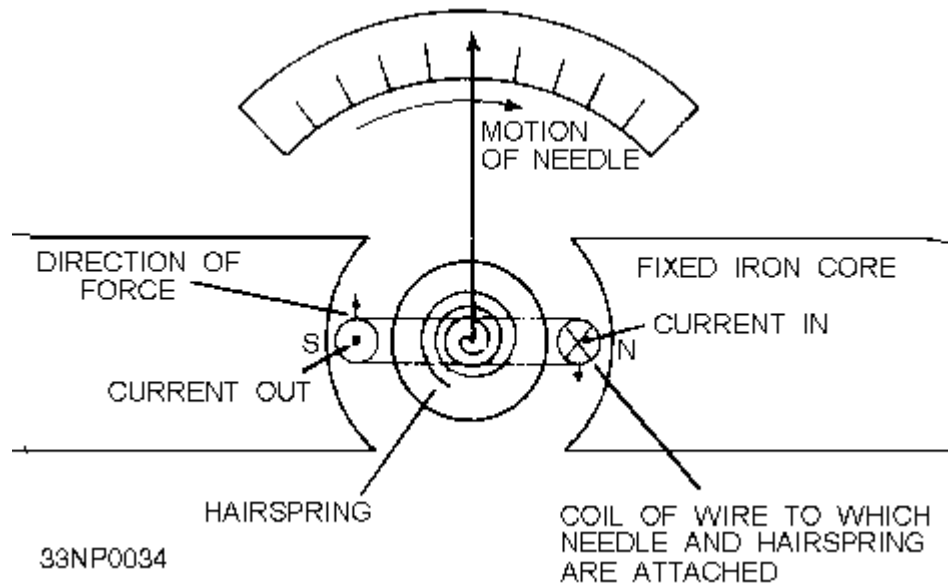

Figure 3-2.—D'Arsonval meter movement.
Most dc instruments use meters based on some form of the D'Arsonval meter movement. In D'Arsonval-type meters, the length of the conductor and the strength of the field between the poles of the magnet are fixed. Therefore, any change in current causes a proportional change in the force acting on the coil. Figure 3-2 is a simplified diagram showing the principle of the D'Arsonval movement.
**POLE CONSTRUCTION.**—Note that the pole pieces in figures 3-2 and 3-3 have curved faces. You can see the advantage of this type of construction if you remember that lines of force enter and leave a magnetic field in the air gap at right angles to the coil, regardless of the angular position of the coil. Because of this type of construction, a more linear scale is possible than if the pole faces were flat.